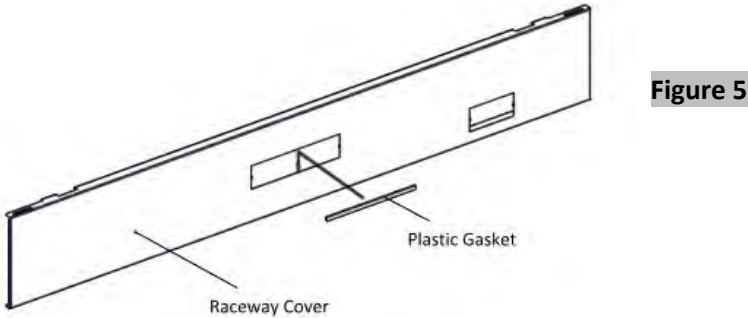

Figure 5
- 6. Insert the plastic gasket on the bottom edge of the outlet cover opening, (Figure 5).